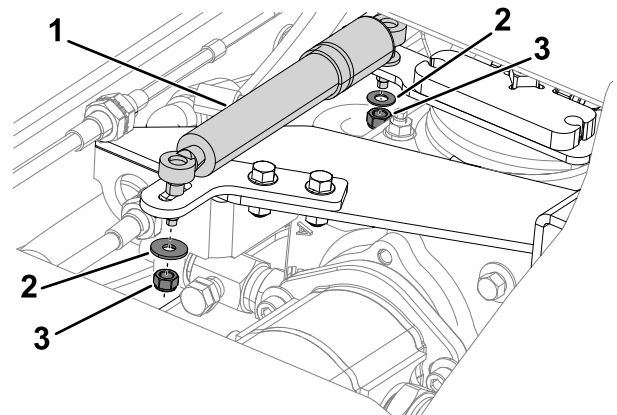

Figure 87
2. Remove the washers and nuts that secure the dampener to the transmission pump and bracket (Figure 87).